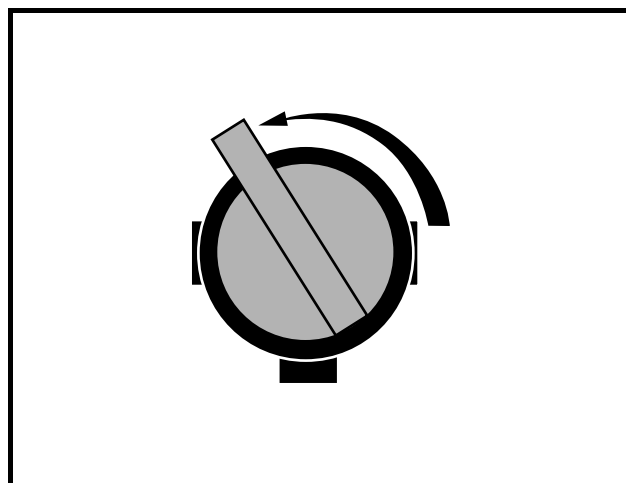
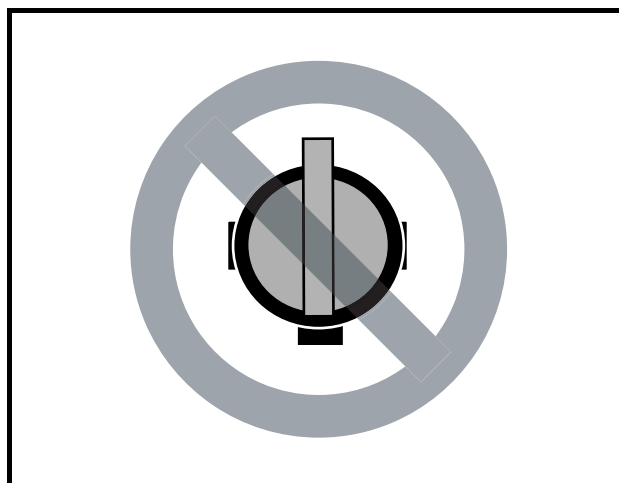

Figure 13 Fuel Shut-off Valve – Open (ON) Position
Figure 14 Fuel Shut-off Valve – Partially Closed Position
- 6.1. Turn the fuel shut-off valve to the closed (OFF) position (**Figure 13**) and run the engine until fuel remaining in the carburetor and fuel line is depleted and the engine stalls.
7. Completely open the fuel shut-off valve (**Figure 13**). Make sure the valve is fully open. A partially closed fuel shut-off valve combined with the use of the choke can result in a fouled spark plug and engine failure (**Figure 14**).
- Turn the fuel shut-off valve to the closed (OFF) position (Figure 13).